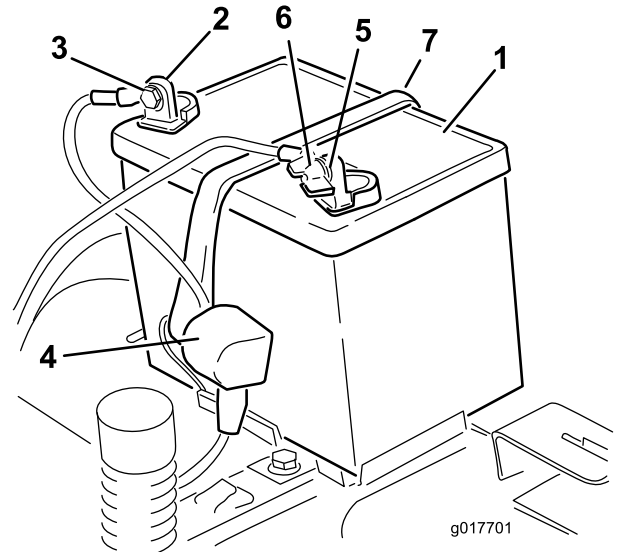

Figure 38
4. Disconnect the negative (black) ground cable from the battery post (Figure 38).
6. Disconnect the positive (red) cable from the battery post (Figure 38).
7. Remove the battery hold-down (Figure 38), and lift the battery from the battery tray.
1. Position the battery in the tray (Figure 38).
5. Secure the battery with the hold-down (Figure 38).